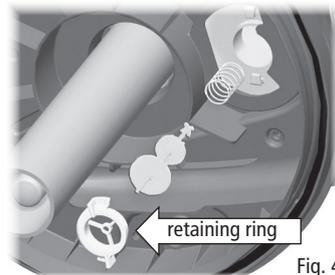

Fig. 4
11. If necessary clean the Cleaning Indicator (U) after disassembling it as follows (the Mode Selector Switch (V) must be set to the "Filtering Mode" position): 1) remove the retaining ring by rotating it counter-clockwise, 2) remove the indicator and its spring. Rinse all parts in water and reassemble them with care (Fig. 4 - Fig. 5).
12. Inspect and clean the two Cleaning Blades (L) and the guide rods. If necessary, replace the blades with new ones. Each blade can easily be detached from the guiding rod by unscrewing the screw in the middle.